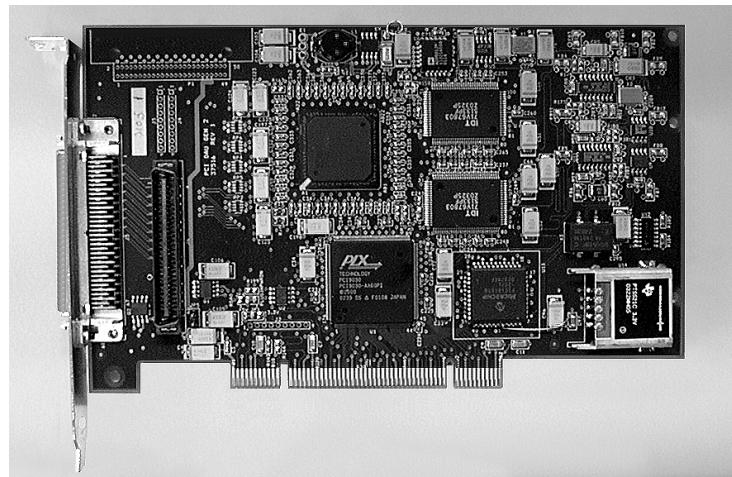

Figure 2-5: PCI Card
5. Remove the PCI card (see Figure 2-5) from the packing box.